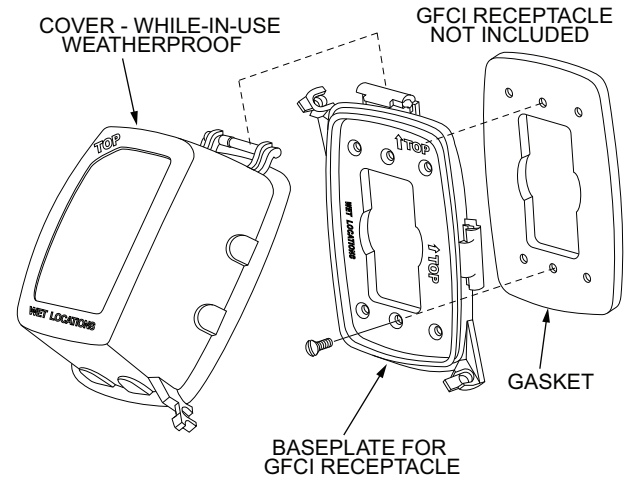

Fig. 53 — Weatherproof Cover Installation
4. Mount the weatherproof cover to the backing plate as shown in Fig. 53.